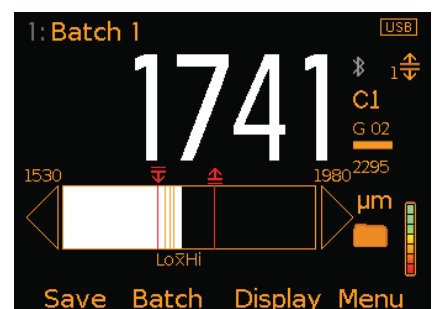

Figure 9: Readings & Bar Graph
- **Bar Graph - Model T (Figure 9)**; An analogue representation of the current measurement value together with the highest (Hi), lowest (Lo) and average ( $\bar{x}$ ) reading. The graph is updated automatically when each reading is taken.